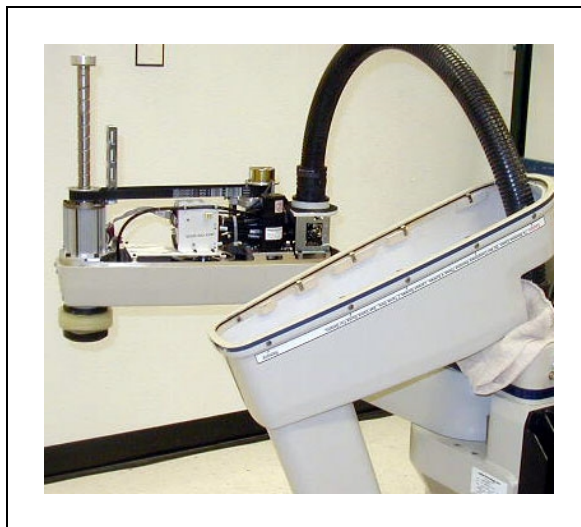

Figure 9-9. IP65 Robot with Outer Link Cover Removed
8. When all 8 screws are loose (but not removed), lift the cover up and slide it back along the cable track and out of the way. Protect the cover with a soft cloth or other padding material so the cover does not get scratched. See Figure 9-9.